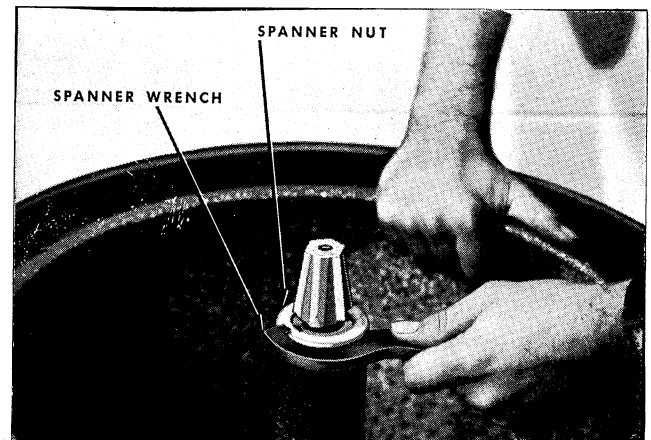

Figure 132
- 3) Remove the spanner nut with the special wrench, *Figure 132*.